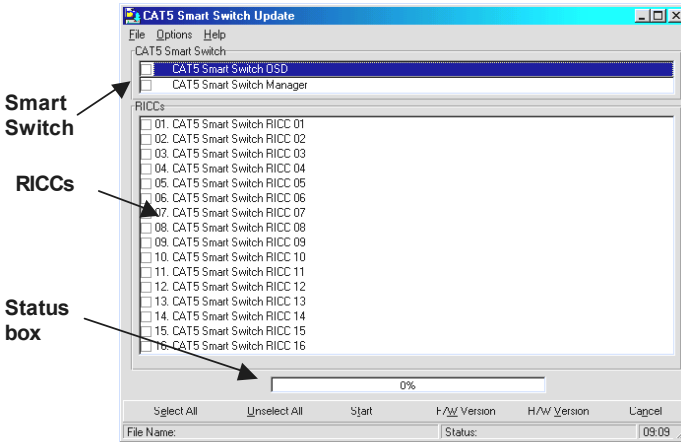

Figure 46 The Smart CAT5 Switch Update window
1. Start the Update software. The Smart CAT5 Switch Update window appears. See Figure 46.
2. In the **Switch Unit** box, check the OSD option. See Figure 46.